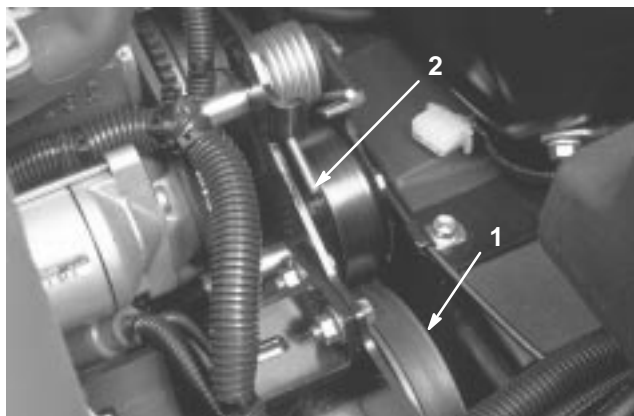

Figure 52
2. Push down and forward on the spring end (Fig. 52) to unhook it from the bracket and release tension on the spring.